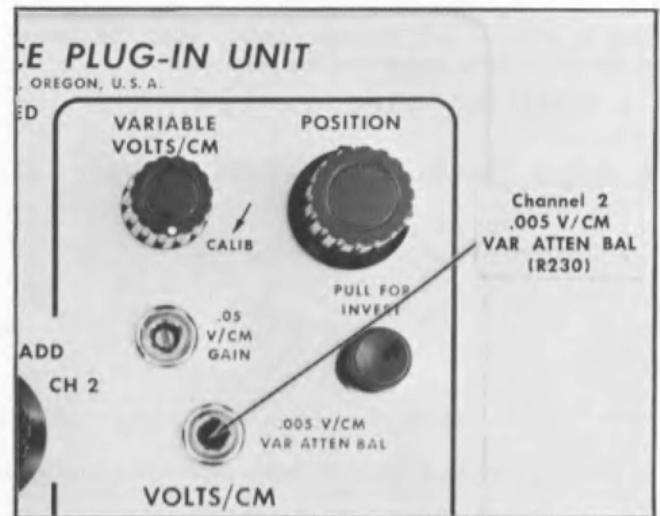

Fig. 7-5. Step 3 adjustment location.
- CHECK—That a free-running trace is present near the center of the screen. The trace does not shift as the Channel 2 VARIABLE VOLTS/CM control is rotated back and forth. If the trace is not present and/or trace-shift occurs, adjust the Channel 2 .005 V/CM VAR ATTEN BAL control (see Fig. 7-5) to vertically position the trace onto the screen.